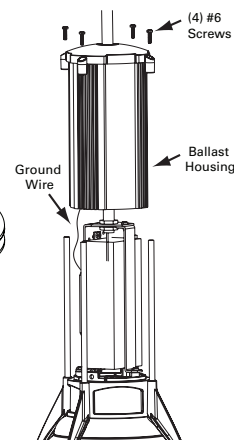

FIG. 3
3. Remove four (4) screws from top of ballast housing and slide ballast housing up pendant stem. **FIG. 3**